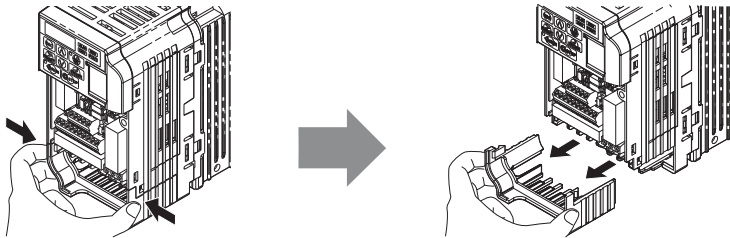
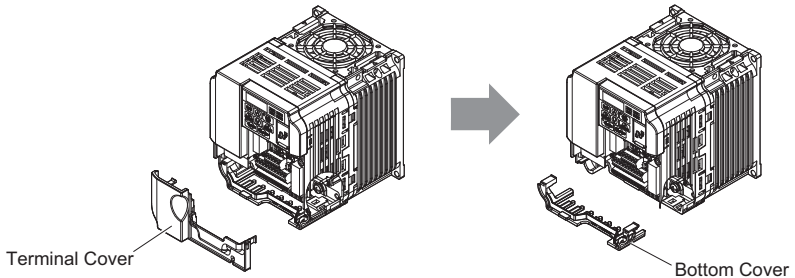

Figure 5 Remove the Bottom Cover on an IP20/Open-Chassis Drive (Models CIMR-V□□BA0001B to BA0003B and 2A0001B to 2A0006B)
Figure 6 Remove the Terminal Cover and Bottom Cover on an IP20/Open-Chassis Drive (Models CIMR-V□□BA0006B to BA0018B; 2A0008B to 2A0069B; 4A0001B to 4A0038B)
- For IP20/Open-Chassis models CIMR-V□□A□□□□B, Remove the bottom cover of the drive by applying pressure to the tabs on each side of the bottom cover. Pull the bottom cover away from the drive while pushing in on the tabs to release the cover from the drive. Refer to Figure 5 for details. Refer to Figure 6 for drive models CIMR-V□□BA0006B to BA0018B, 2A0008B to 2A0069B, and 4A0001B to 4A0038B, which require removing the terminal cover prior to removing the bottom cover.